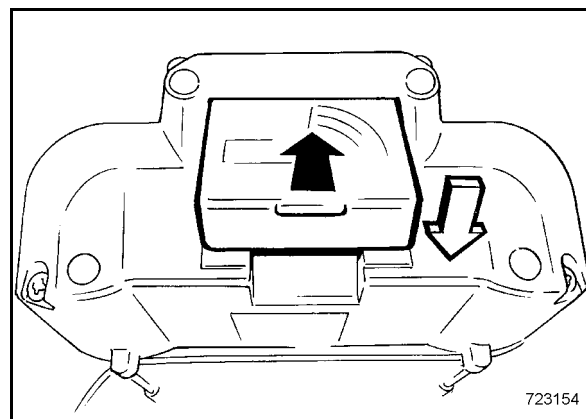

Fig. 59
- Insert the replacement power pack into the receptacle (Fig. 59) and let it click into place.